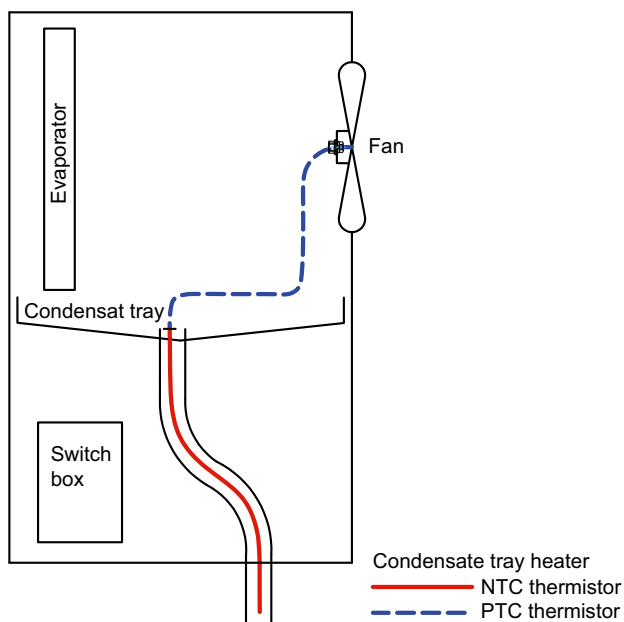

Fig. 1.1:
- 2) Install the supplied condensate drain heater (see Fig.1.1 on pag. 1).